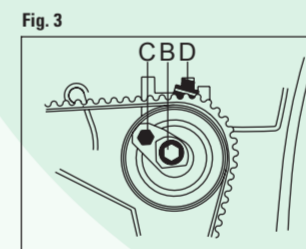

Fig. 3
- FIGURE 3 Unloose blocking bolt B, turn belt tensioner clockwise on the eccentric regulator C, align D indicator in the control zone D, tighten blocking bolt B. 20° tension temperature.